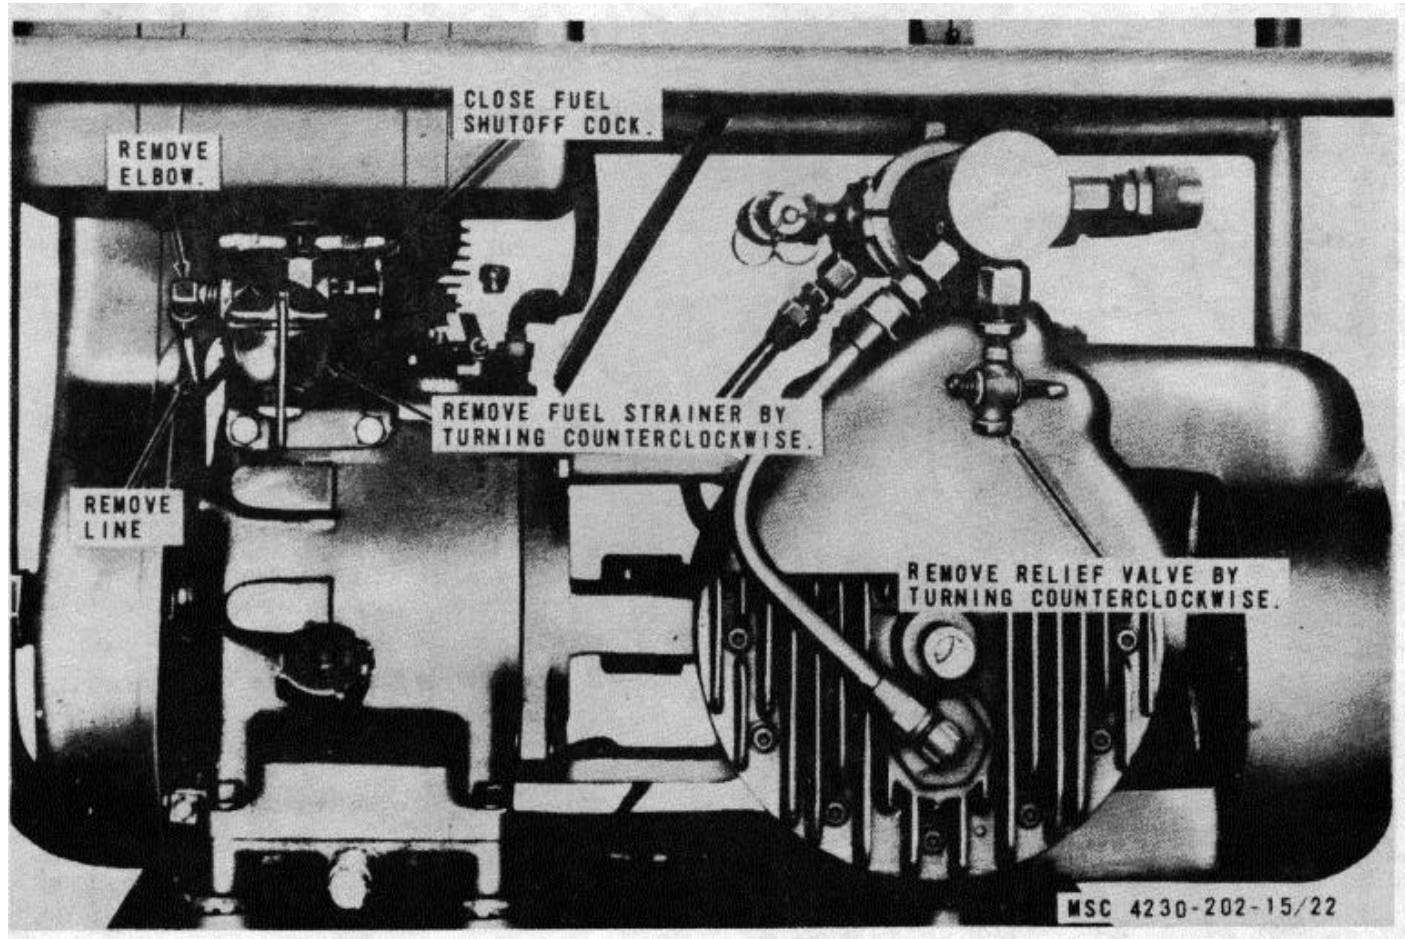

Figure 3-15. Fuel strainer, line, and relief valve, removal and installation
a. *Removal.* Refer to figure 3-15 and remove and install the fuel strainer, line, and relief valve.